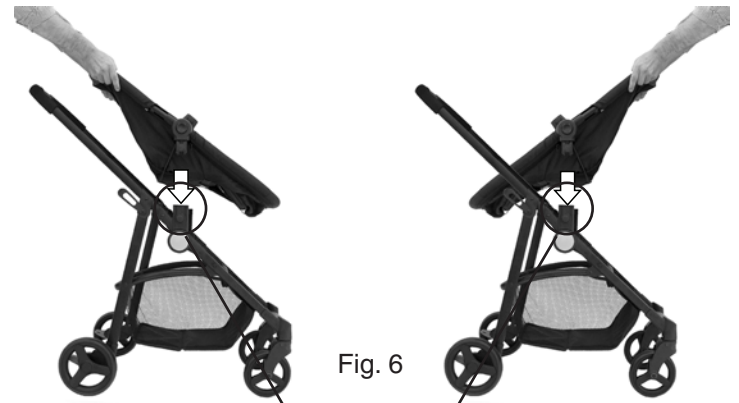

Fig. 6
- **To install seat unit,** align the seat unit with the corresponding holders on the stroller frame in preferred orientation; facing parent, or facing away from parent (Fig. 6).